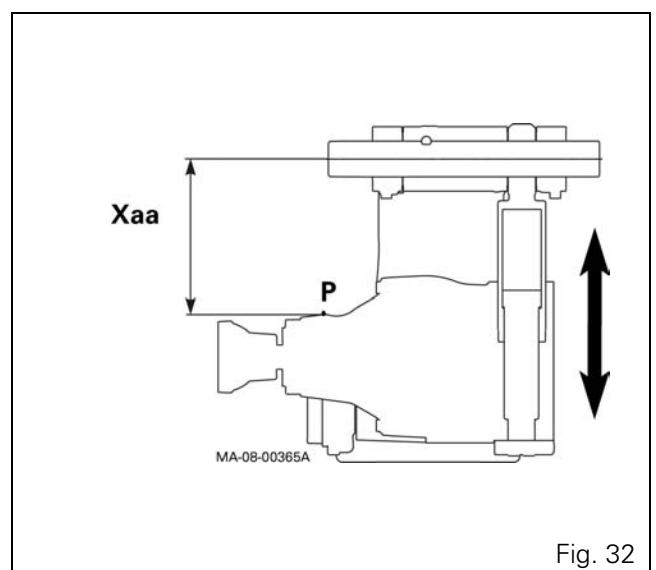

Fig. 32
35. Fully raise the axle beam arm and measure the distance  $X_{aa}$  in Axle open position between the pivot pin centre and the selected reference point P (Fig. 32).